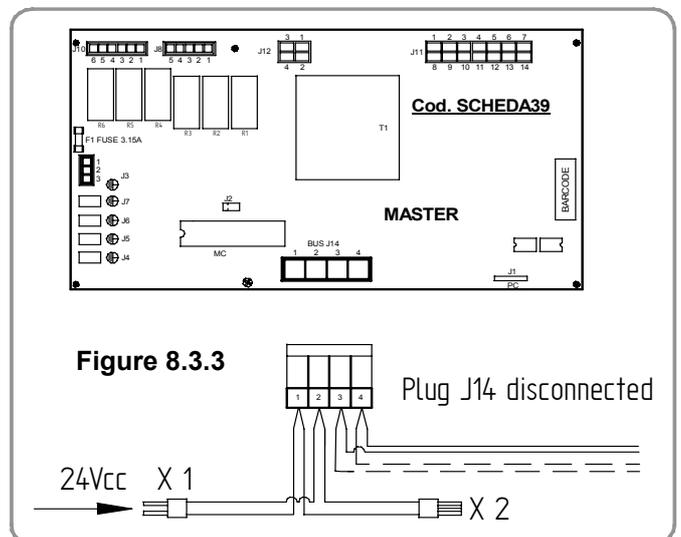

Figure 8.3.3
8.3.4. Terminal X1 or Terminal X2 which are part of the cabling of the J14 connector) must be connected to a 24V DC power supply (see figure 8.3.3)
WARNING! If several Milborne boilers are installed in series, one or both of the terminals (X1 or X2) may be connected to the adjacent boilers. If this is the case, supply the free terminal with 24V, for example terminal Xn - see figure 8.3.3.